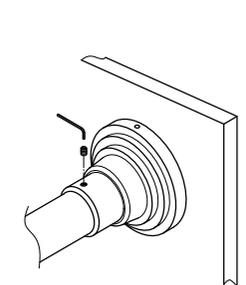

Fig. 7
- Step 6. Attached shower rod into the mounting unit and screw the shower rod in securely (Fig 7).